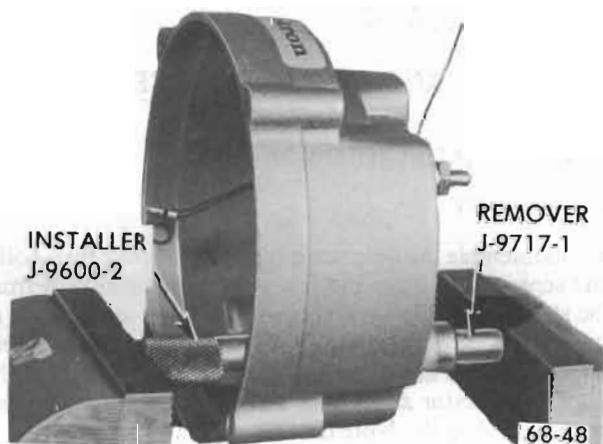

Figure 68-48 Installing A Diode
2. To install a diode, place new diode in Installer J-9600-2. Place slip ring end frame in a vise so that new diode is in position and Remover J-9717-1 supports casting. See Figure 68-48. Tighten vise to install new diode.